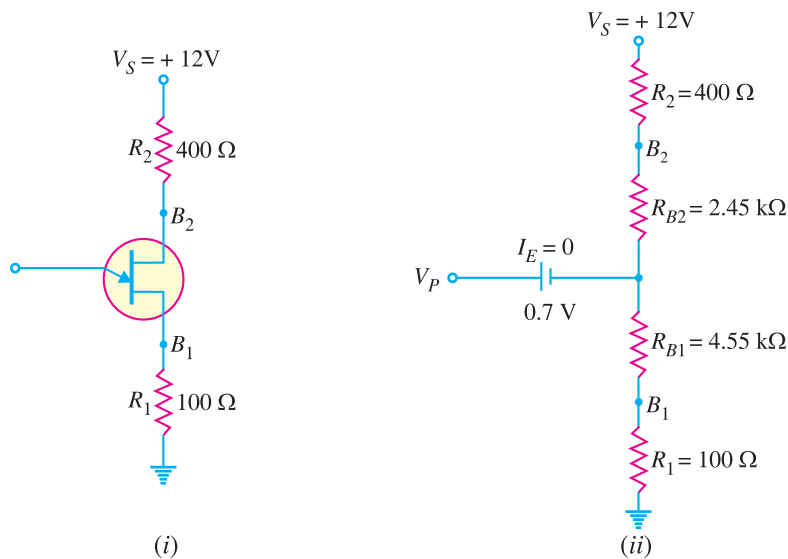

Fig. 21.29
**Example 21.10.** Fig. 21.29 (i) shows the UJT circuit. The parameters of UJT are  $\eta = 0.65$  and  $R_{BB} = 7 \text{ k}\Omega$ . Find (i)  $R_{B1}$  and  $R_{B2}$  (ii)  $V_{B1 B2}$  and  $V_P$ .
(ii) Fig. 21.29 (ii) shows the *UJT* circuit model. Because *UJT* is *OFF*,  $I_E = 0$ . We can find  $V_{B2B1}$  by the voltage-divider rule.